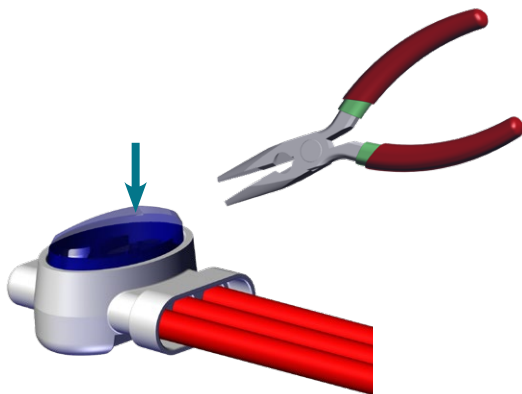
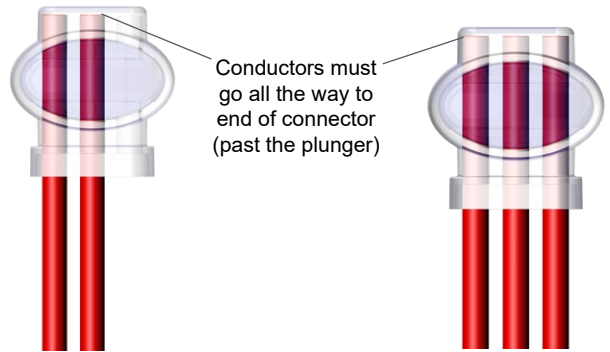

Figure 5a. Depress the scotchlok plunger to fully secure the conductors
Figure 4a. CORRECT wire insertion in Scotchlok connector
3. Fully insert positive (red) conductors into one Scotchlok connector. See Figures 4a and 4b for correct and incorrect insertion. Using pliers, firmly press the oval "plunger" to secure the wires (Figures 5a, 5b). These are single use connectors; once the plunger has been depressed the connector must be replaced if there is a problem with the connection.